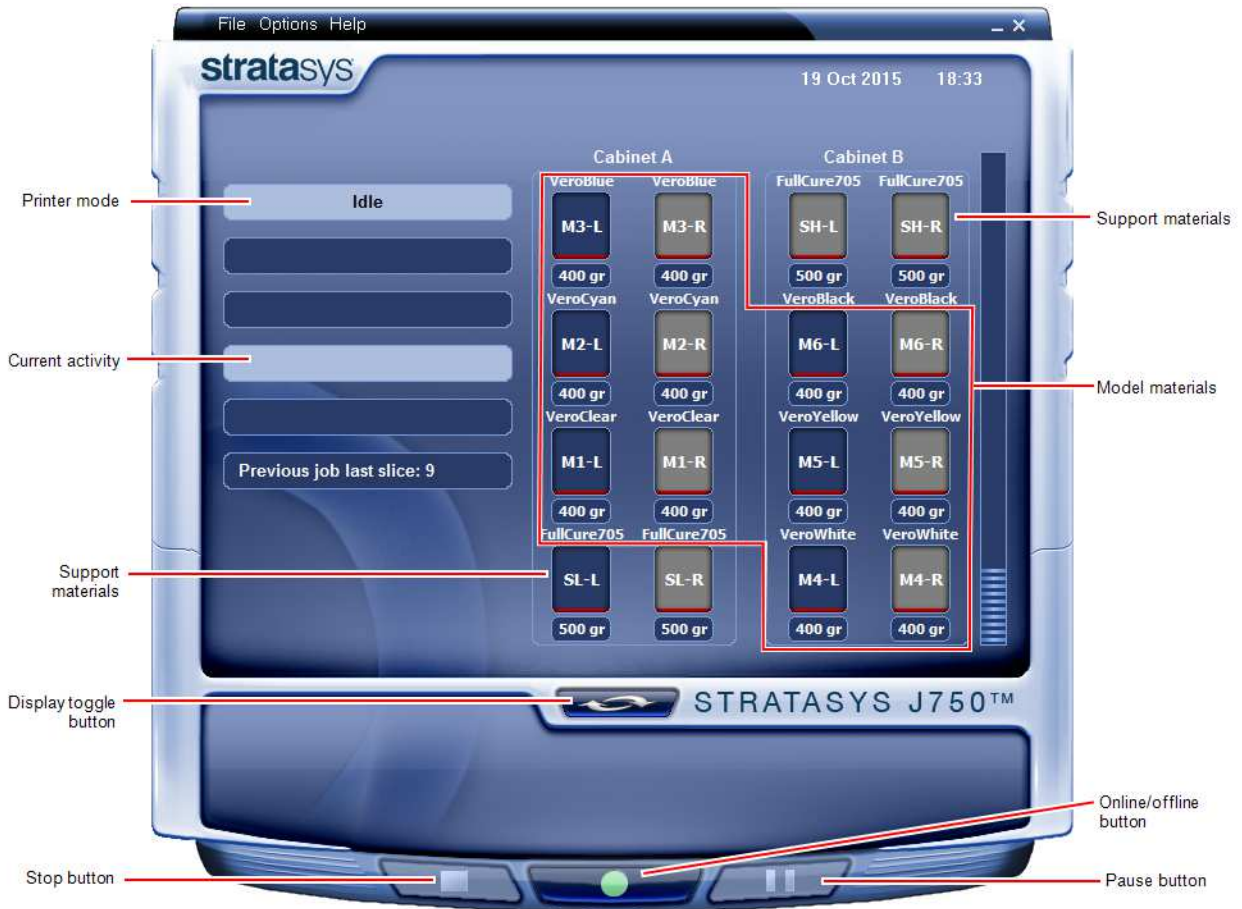

Figure 6-3 Stratasys J750 interface
J750 printers use up to 12 cartridges of Model material and up to four cartridges of Support material, each weighing 3.6 kilograms when full. A graphical representation of the cartridges loaded and their current weight appears in the printer interface (see Figure 6-3 on the previous page).
3. Check the printer interface to make sure that the new cartridge is detected and that its weight is displayed (see Figure 6-3 on the previous page).
2. Make sure that there is sufficient Model and Support material loaded, as indicated on the printer interface (see Figure 6-3 on page 6-4). You may want to replace the cartridges of Model and Support material currently loaded in the printer to avoid the need for replacing them during printing.
1. If the printer is in offline mode, switch it to online mode by clicking the red button at the bottom of the printer interface (see Figure 6-3 on page 6-4).
The button changes from red to green (see Figure 6-3 on page 6-4).